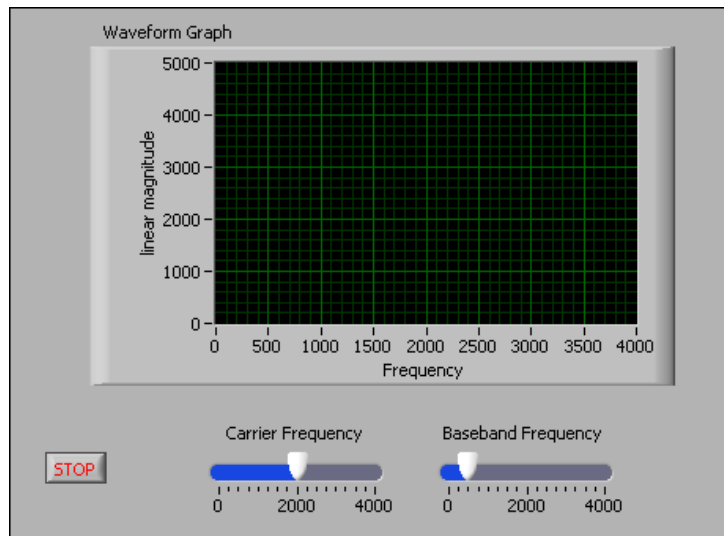

Figure 2. Looking at the Heterodyne VI Front Panel
1. Double-click **Heterodyne.vi** under the DSP target you are using in the **Project Explorer** window to open the front panel of the VI, shown in Figure 2. You create user interfaces for DSP VIs in the same way you create user interfaces for VIs that run on Windows.